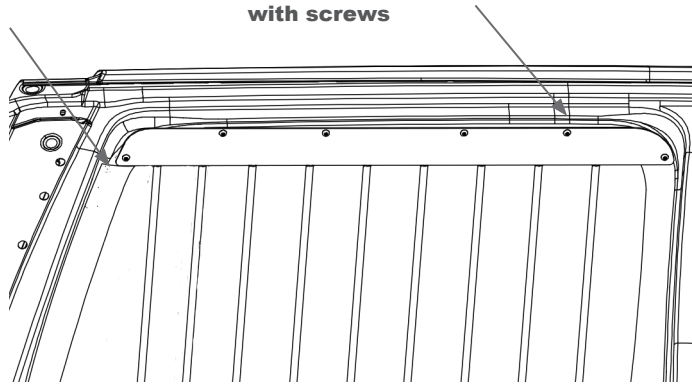

Fig. 2
F. Use a 3/32 drill bit to drill out the pilot holes for the metal screws. Use the philips head screw driver to install all securing fasteners to the vehicle. At this point the holes and and screw can be installed in the window trim to secure to vehicle. (As shown in fig. 2)